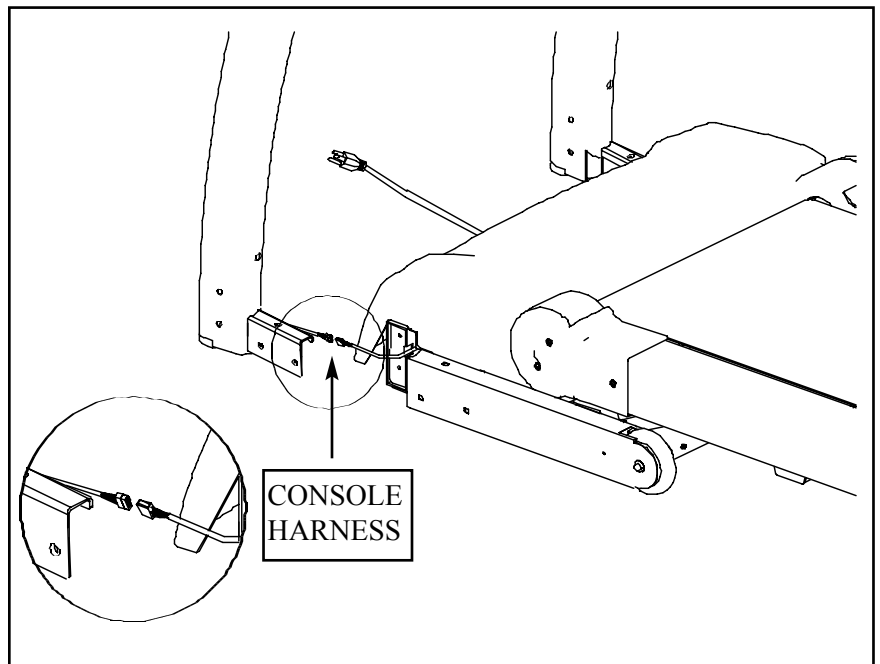

Figure 1: Console Harness Location
2. Connect the console harness together. One side of harness is located near the motor cover on the bottom left side. The other end is located inside the Left Upright assembly. See Figure 1 and 2.